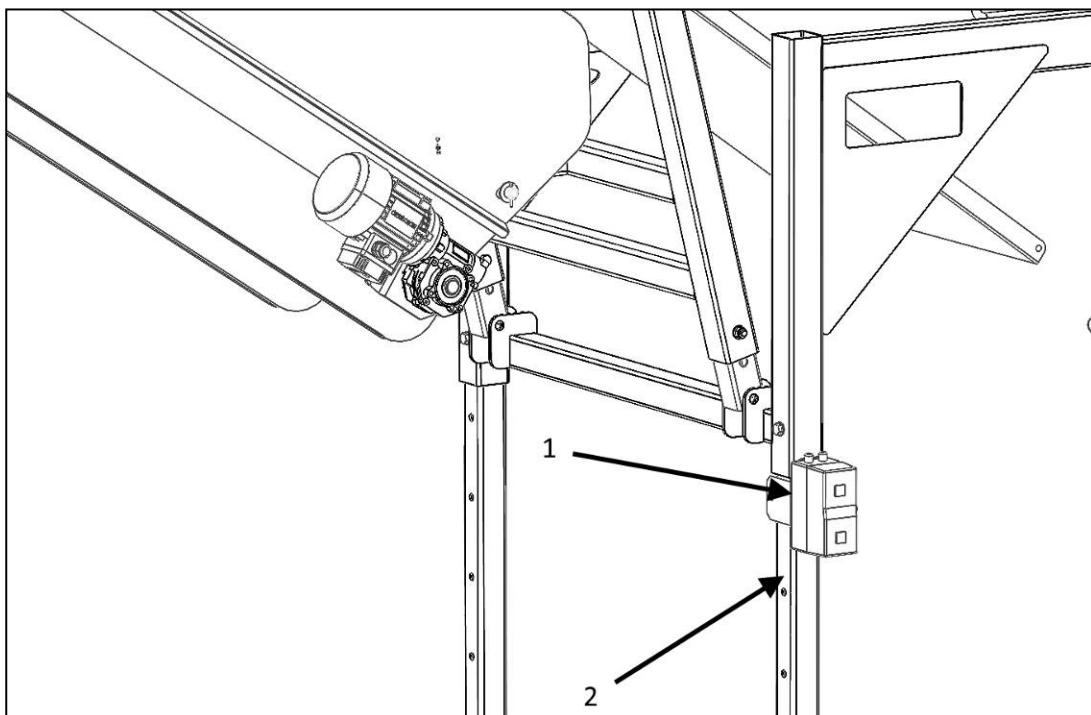

Figure 8
7. Attach the electric motor starter housing of the conveyor (Part 1) to the roller support foot (Part 2). It is good to tighten the starter in place only when the roller is set to the operating height (Figure 8).